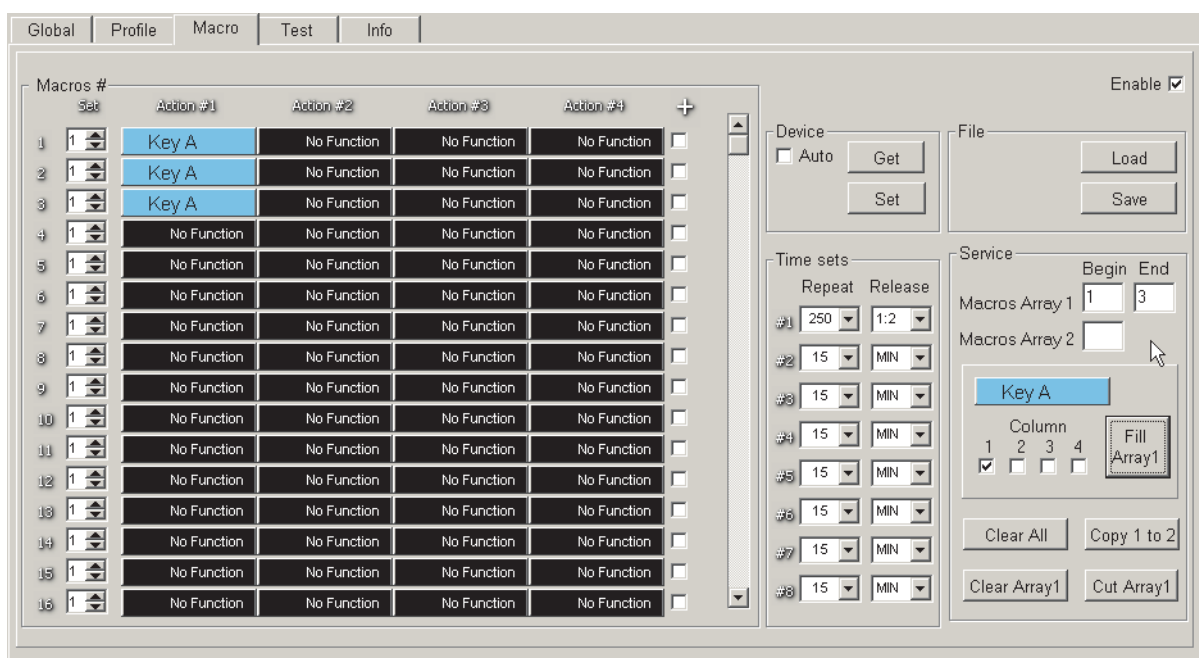
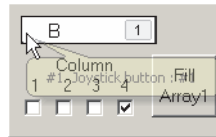

Fig. 7.4.
Fig. 7.5.
Some settings can be applied to several macros and points simultaneously. Use control items of **Service** group for it (Fig. 7.4).
**Clear Array1** button allows to reset specified macro range. Counters **Begin** and **End** in **Macros Array1** group (Fig. 7.4) specify range limits.
You can fill point array with the same functions. For example Action#1 column of macros 1...2 is filled with A keystroke on Fig. 7.4. Click logical button cell (Fig. 7.5) and assign desired function in **Quick logical layer wizard** dialog that will appear.